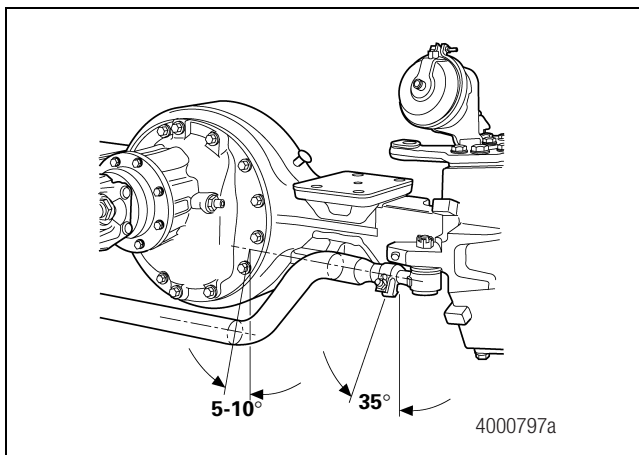

Figure 6.31
3. Tighten the clamp to the correct torque. Refer to Section 8. Figure 6.31.
4. Verify that the cross tube drop center does not interfere with the carrier or other vehicle components. Larger axles should have the drop center inclined at 5-10 degrees to vertical for optimum clearance at maximum turn conditions. Figure 6.31.